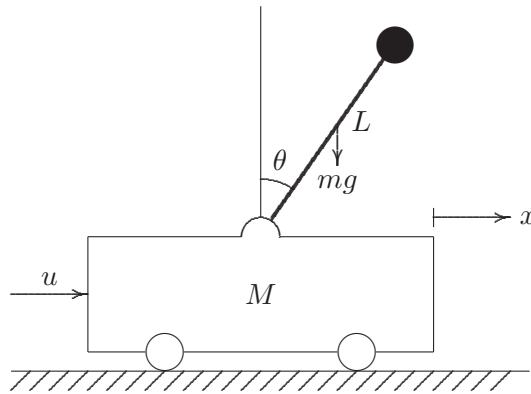

FIGURE 102
12.12. Figure 102 shows an inverted pendulum of length L and mass m mounted on a cart of mass M , by means of a force u applied to the cart. This is a model of the attitude control of a space booster on takeoff. The differential equations describing the motion of the system is obtained by summing the forces on the pendulum, which result in the following nonlinear equations.